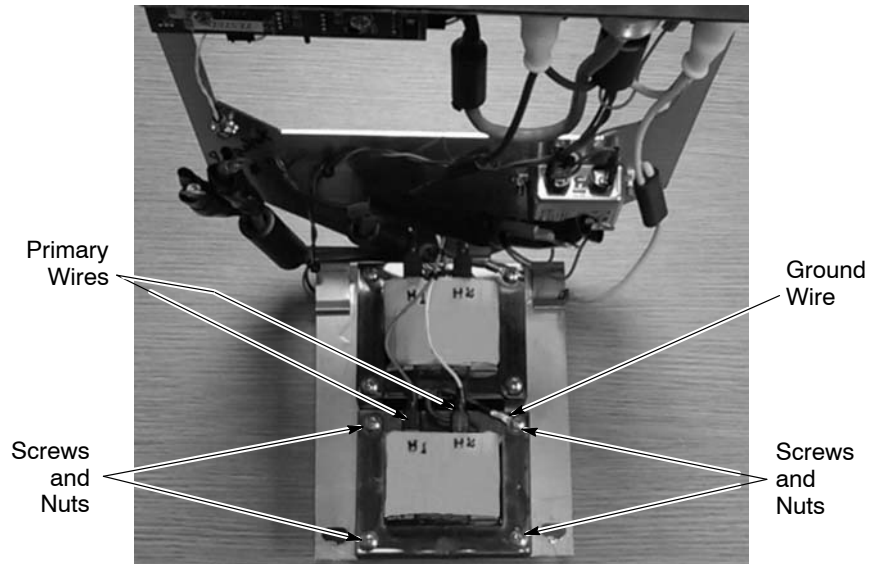

Figure 6-20 Transformer Removal
5. See Figure 6-20. Note the colors of the primary wires connected to the transformer H1 and H2 terminal tabs, then disconnect the wire receptacles from the tabs.